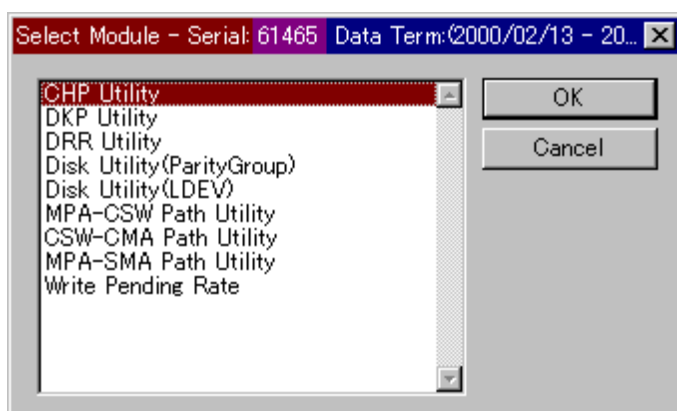
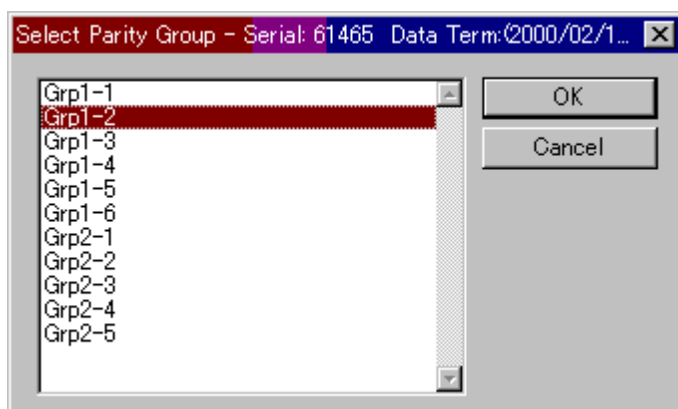

Figure 5.17 Select Module Panel
Figure 5.18 Select Parity Group Panel
2. Open the Select Module panel (see Figure 5.17), select the data module that you want to display, and then select **OK**. If you select the **Disk Utility (LDEV)** module, the Select Parity Group panel opens automatically (see Figure 5.18). Select the desired parity group, and select **OK**.